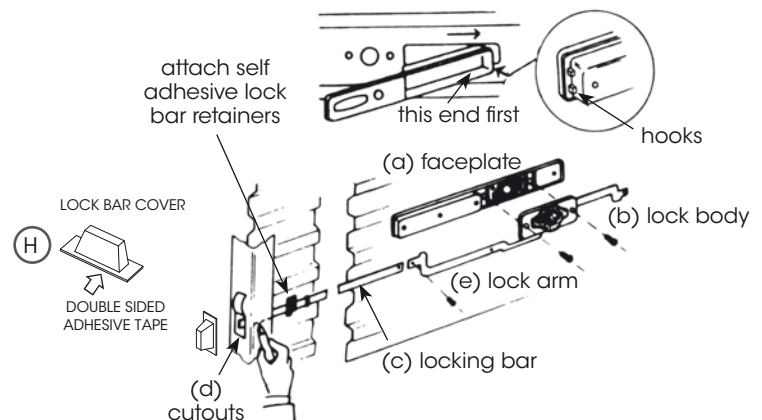

Fig: 2.6.1
- Fit faceplate to outside of door. Fit hooks onto edge of aperture then slide faceplate as far to the right as possible. Use adhesive tape to hold in position Fig 2.6.1.
- Fit locking bar covers (H) to cut outs on each side.